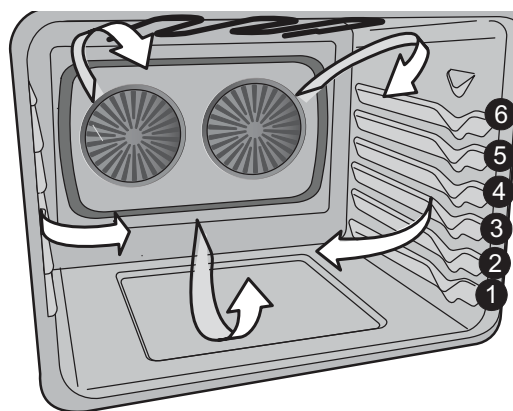

Figure 12: Rack positions
- For best results when baking cakes using two oven racks, place Glide rack in position 4 with the flat handle rack in position 1. (See Figure 12).